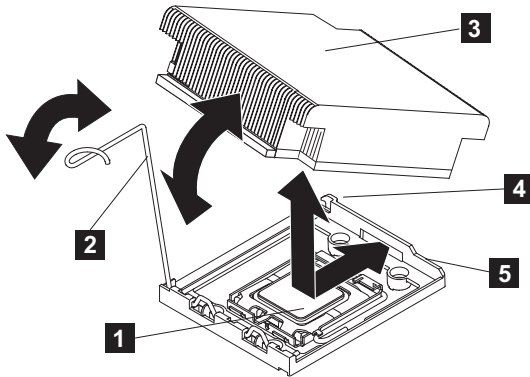

Figure 264. Installing the heat sink on the SAN Volume Controller 2145-CG8 or 2145-CF8 microprocessor
8. Align the heat sink on top of the microprocessor, as shown in Figure 264.